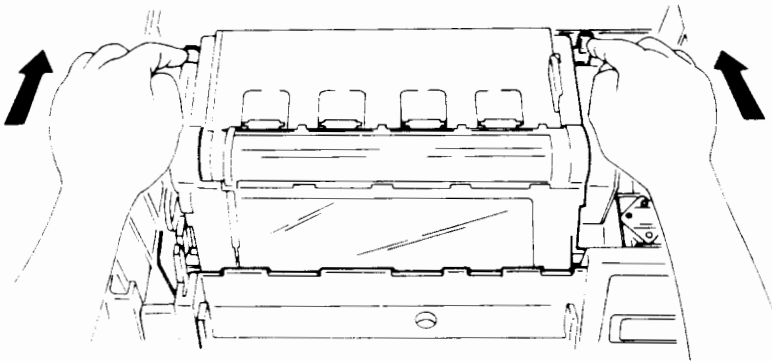

Figure 7-2 Unlocking the process cartridge
2. Push the two retaining clips to unlock the process cartridge, as shown in Figure 7-2. The cartridge will pop up out of its locked position.